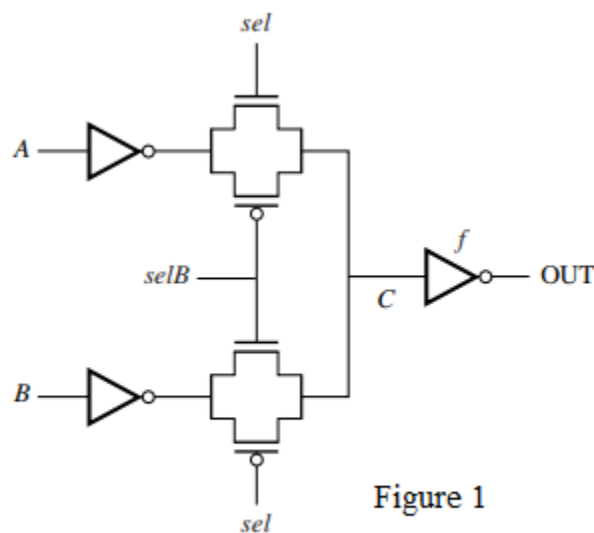

Figure 1
3. For the circuit shown in Figure 1, assume that the transmission gates are all $4\lambda:2\lambda$ and that the inverters driving the transmission gates have PMOS transistors that are $8\lambda:2\lambda$ and NMOS transistors that are $4\lambda:2\lambda$, where $\lambda = 0.1\mu\text{m}$. The output inverter drive a 50 fF load. The output inverter is f times larger than the input inverters. Answer the following questions **(15 points)**